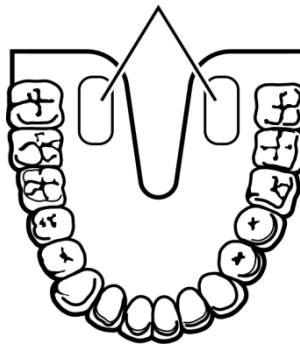

Figure 69: Location of Sublingual Pockets
- 7) Insert the Temp Probe tip deep into the sublingual pocket next to the frenulum linguae, (vertical fold of tissue in middle of tongue), on one side or the other, toward the back of the mouth (refer to Figure 69).